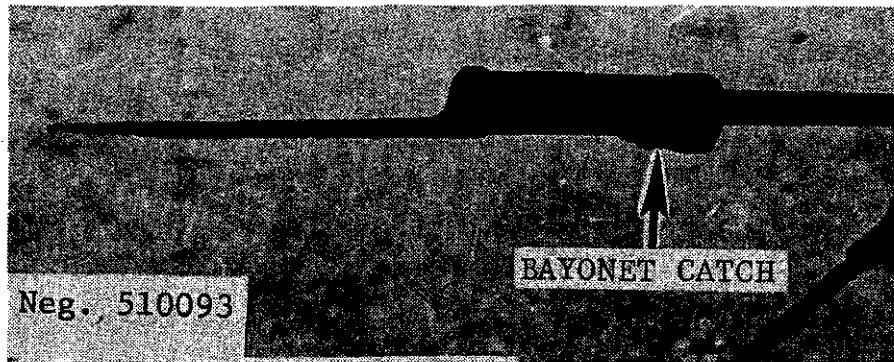

Figure 94. Galil bayonet.
c. The Galil uses a spike-type bayonet (fig 94) similar to that used with the Belgium C.A.L. rifle (para 119b).